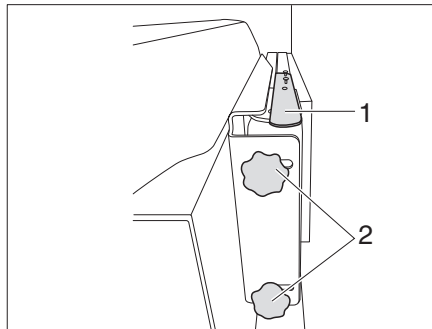

Fig. 132 Holder with jointed arm (variant 1)
- Press the lever (Fig. 132,1) downwards to release the flat screen from the latch. Release the lever.
- Undo the 2 knurled screws (Fig. 132,2) and swivel the flat screen into the desired position. Retighten the knurled screws (Fig. 132,2).